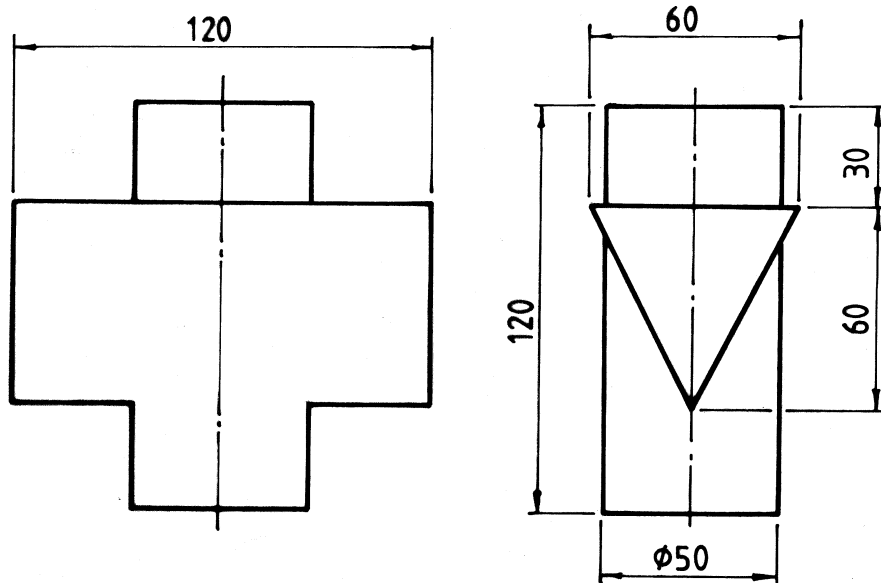

FIG.2 FIG.2
2. The elevations of two intersecting pipes are shown in Fig. 2.